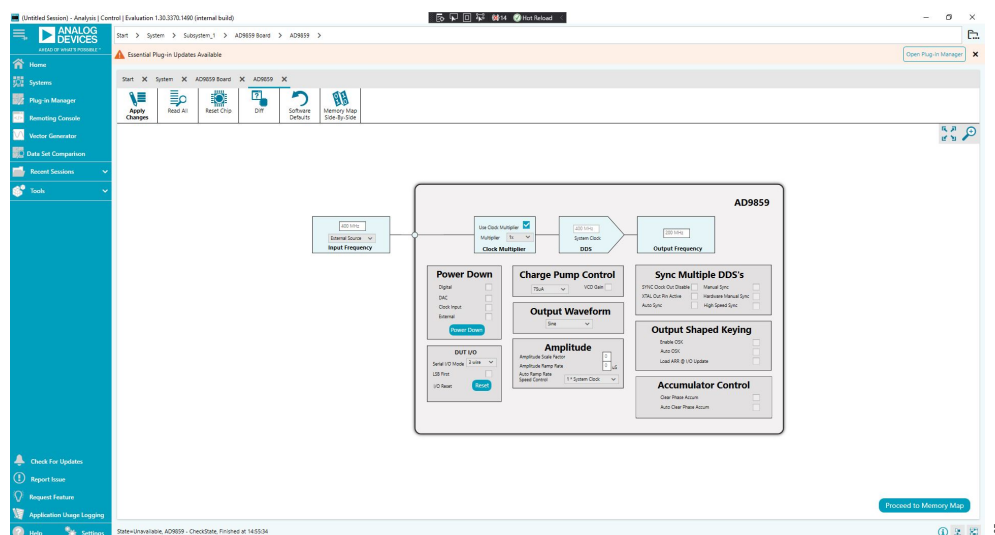

Figure 5. ACE Software Front Panel
3. Double-click the **AD9859** icon that appears on the board GUI to open the main control window shown in **Figure 5**.
The main controls are shown in the Figure 5. To modify any controls, take the following steps:
2. Modify any **ACE Software** front panel settings as required (see Figure 5).
3. Click **APPLY CHANGES** to load the modified settings to the **AD9859**, which then performs the write sequence. If the **System Clock** frequency and **Output Frequency** selected are outside of the operational range, an error message will appear within the GUI. Specific blocks can be powered down by setting the corresponding power-down check boxes within the **Power Down** section shown in Figure 5.
The **Input Frequency** section shown in Figure 5 allows users to configure the reference clock.
The **Clock Multiplier** section shown in Figure 5 allows users to select the phase-locked loop (PLL) multiplication factor (4× to 20×) by which to scale the input frequency. The default setting of this dropdown menu is **1×**, indicating that the **Clock Multiplier** circuitry is bypassed and that the input frequency and crystal input are piped directly to the DDS core.
The **System Clock DSS** section shown in Figure 5 displays the operating frequency of the DDS core (system). The value within this box is derived from the value entered and selected in the **Input Frequency** section and the **Multiplier** selected in the **Clock Multiplier** section by the user.
To customize the channel output configuration, go to the **Output Frequency** section shown in Figure 5. By default, the channel output operates in single tone mode.
Users can go to the **Power Down** section shown in Figure 5 to power down any of the following:
To control the current settings on the charge pump, go to the **Charge Pump Control** section shown in Figure 5. The default value of the charge pump current is **75µA**. Other dropdown menu options included the following: **100µA**, **125µA**, or **150µA**.
In the **Output Waveform** section shown in Figure 5, users can select either a **Cosine** or **Sine** function for the angle-to-amplitude conversion. The default setting is **Cosine**.
Use the **Amplitude** section in Figure 5 to set the **Amplitude Scale Factor**, **Amplitude Ramp Rate**, and **Auto Ramp Rate Speed Control**.
The SYNC_CLK pin is active by default within the **Sync Multiple DDS's** section of Figure 5. When the **SYNC Clock Out Disable** feature is enabled (checked off), the SYNC_CLK pin assumes a static Logic 0 state to minimize the noise generated by the digital circuitry. The synchronization circuitry remains active internally to maintain the device timing.
The shaped on-off keying function is enabled or disabled using the **Output Shaped Keying** section shown in Figure 5 by enabling (checking off) **Enable OSK**. The OSK function allows users to control the ramp-up time and ramp-down time when turning the DAC on or off. This function is primarily used in burst transmissions of digital data to reduce the adverse spectral impact of short, abrupt bursts of data.
In the **Accumulator Control** section of Figure 5, the following options are available:
The **DUT I/O** section shown in Figure 5 controls the I/O configuration for the device. Click the **Reset** button of the **I/O Reset** to send an I/O reset to the corresponding serial port state machine. Select the **LSB First** box to change the data format to LSB first from the default setting of MSB first. Use the **Serial I/O Mode** dropdown menu to select the desired I/O mode of operation: **2 wire** or **3 wire** (which is the default).